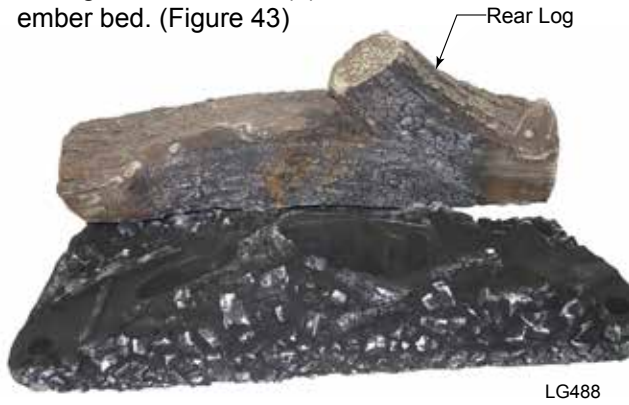
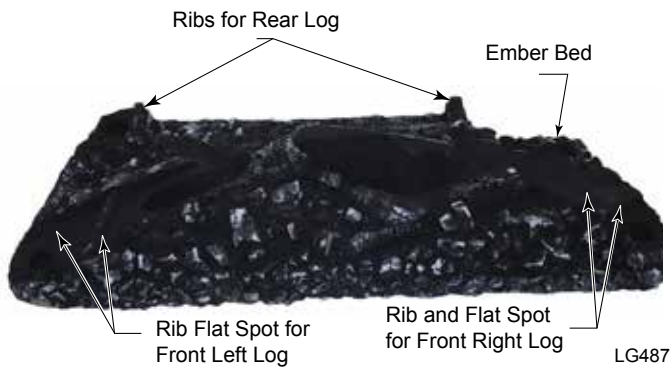

Fig. 42 Rear Log
Fig. 43 Ribs for Logs
2. Install the rear log by placing it on the ember bed toward the back of the firebox. (Figure 42) The log should touch the back wall of the firebox. When the log is in place, the two (2) notches on the bottom of the log rest on the two (2) ribs on the back side of the ember bed. (Figure 43)
3. Install the front left and right logs (Figure 44) by placing them on the ribs shown in Figure 43. Make sure the logs line up with the flat spots on the ember bed intended for location purposes. (Figure 43)